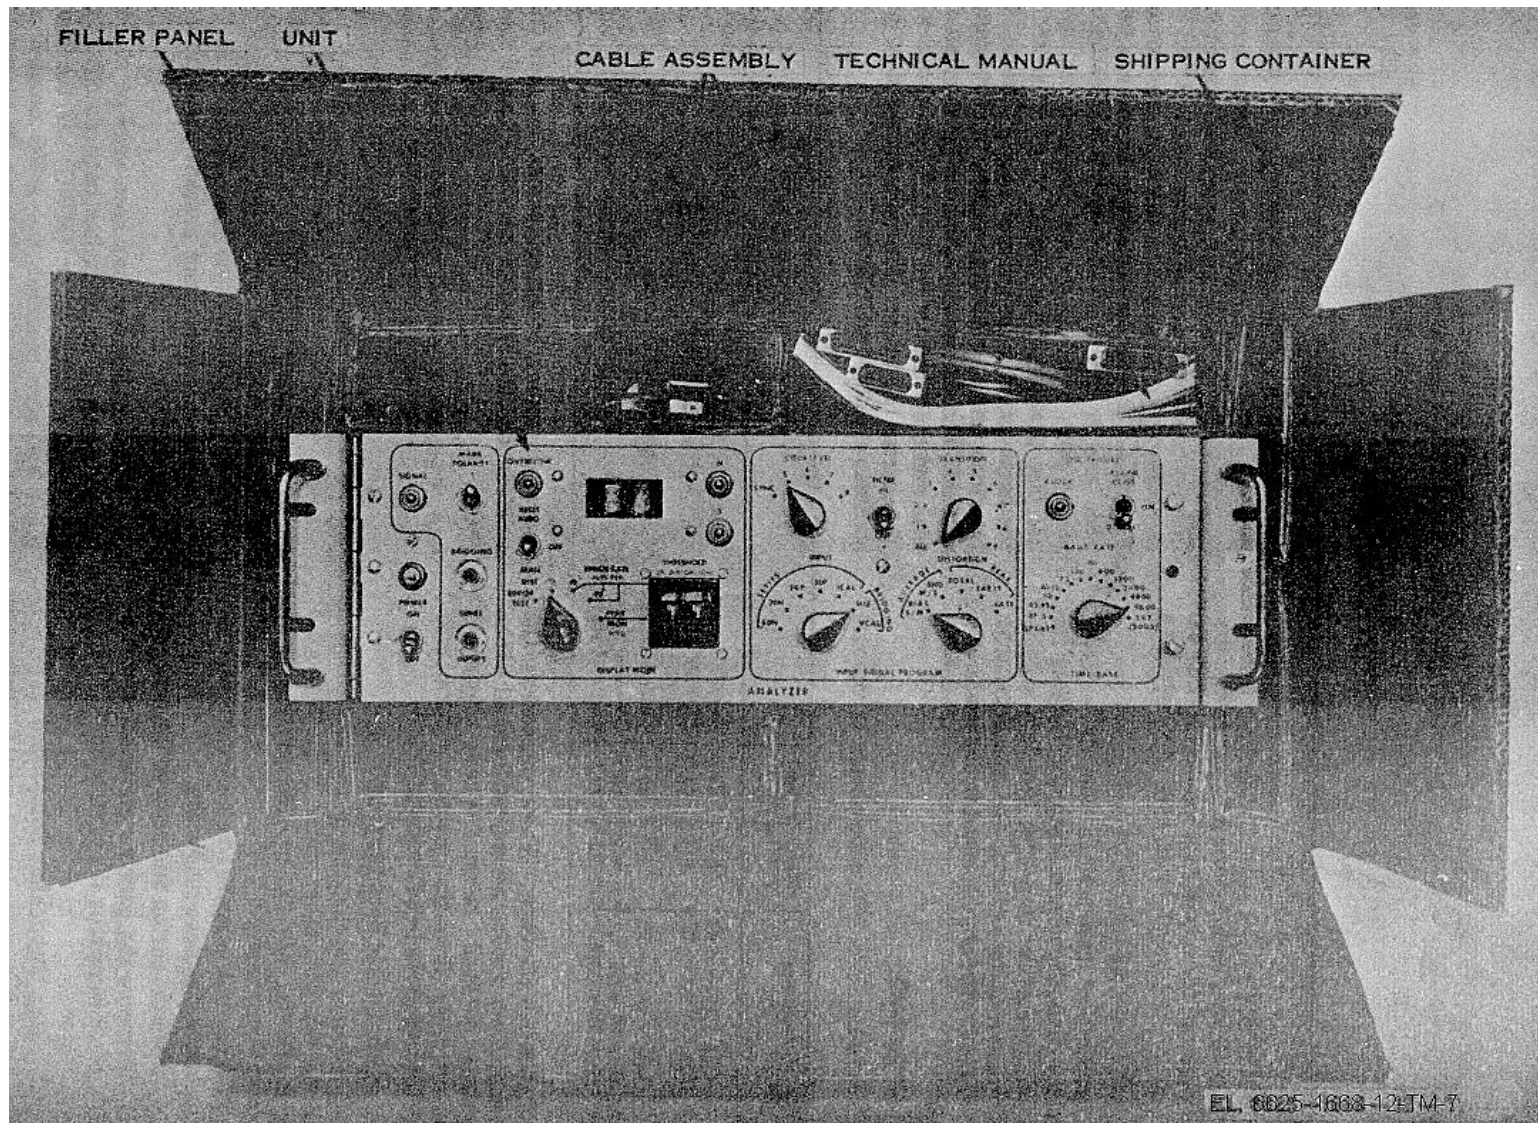
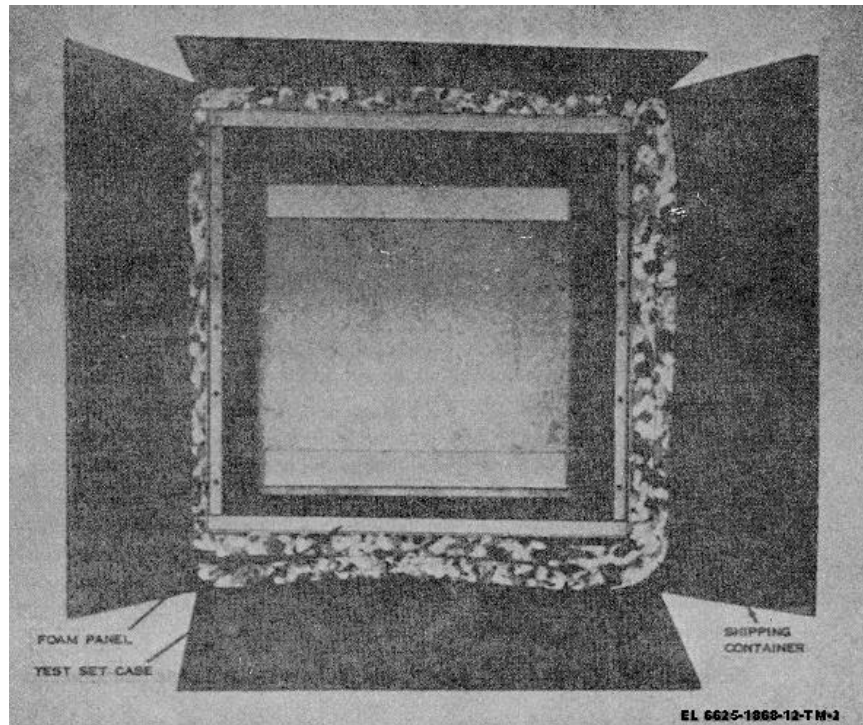

Figure 2-1. TS-2862/GGM-15(V0, typical domestic packaging.
Figure 2-2. CY-6672/GGM-15(V), typical domestic packaging.
a. This chapter contains the procedures and diagrams required for unpacking, inspection, and installation of Telegraph Test Set AN/GGM-15 (V).
a. *Packaging Data.* The components of the test set are packed in individual cartons for domestic shipment. For overseas shipment, these cartons may be sealed in moisture-vaporproof wraps and inclosed wooden crates. Figures 2-1, 2-2 and 2-3 show the units packaged in the domestic cartons. Figure 2-1 shows the packaging of the analyzer. This carton also contains the interface cable, power cable, running spares, and technical manual. The generator and oscilloscope are packed in the same manner as the analyzer excluding the interface cable, running spares, and technical manual. The domestic packaging of the test set case and dolly are shown in figures 2-2 and 2-3. The carton numbers, dimensions, weights, and contents are listed as follows: